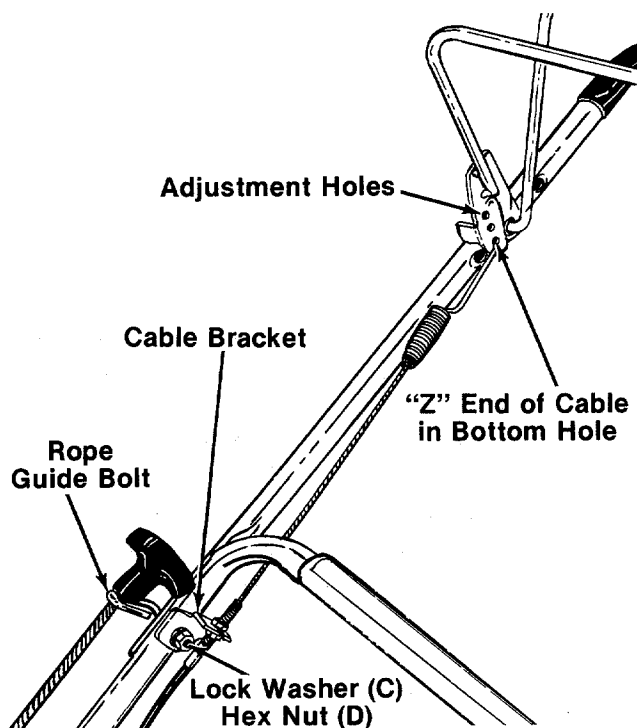

FIGURE 6.
9. Route the clutch cable under the lower handle. Hook the "Z" end of the clutch cable into the bottom adjustment hole in the clutch control handle. See figure 6.
10. Place the clutch cable bracket on the rope guide bolt. See figure 6. Secure with lock washer (C) and hex nut (D).
If additional adjustment is needed, unhook the cable from the clutch handle and move it to the next higher adjustment hole provided. Refer to figure 6. Then readjust the hex nuts at the cable bracket.